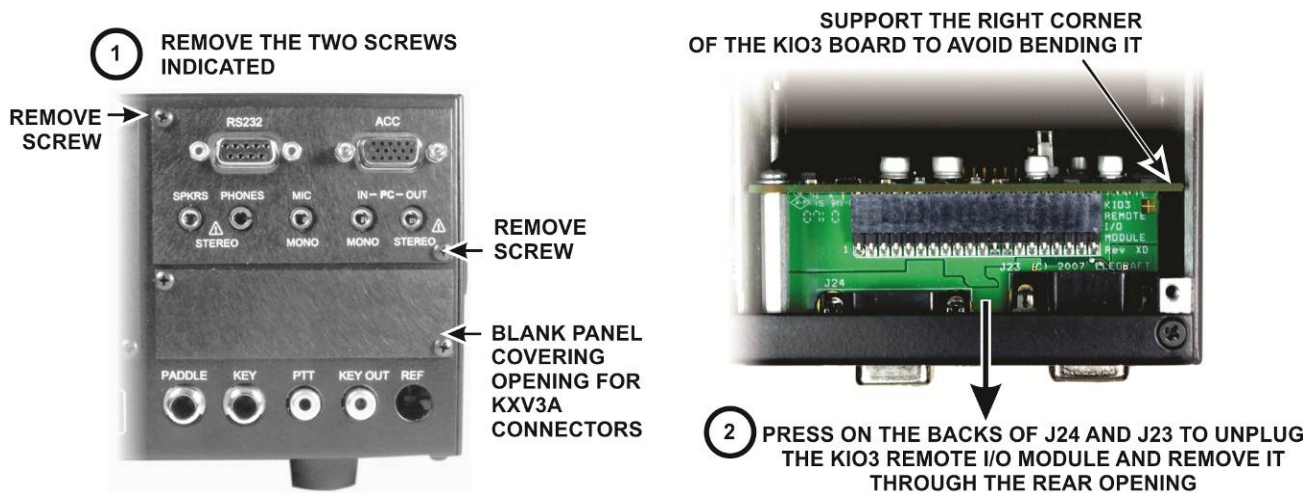

Figure 5. Removing the Digital I/O Module.
- Remove the Digital I/O module from the KIO3A or KIO3 Board at the rear of the K3 as shown in Figure 5.
- Remove the blank panel covering the space for the KXV3B module (see Figure 5). This panel will not be replaced.